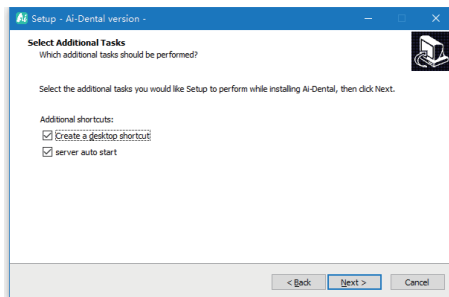

Figure 7
f) Set whether to create a desktop shortcut and server auto start, click the "Next" button after completion, as shown in Figure 7: